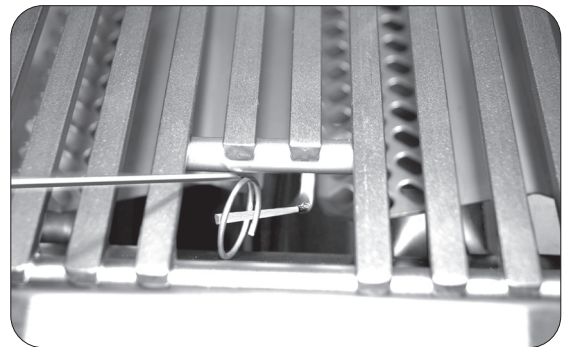

Fig. 31-2 - Manual lighting
**CAUTION:** Always wait five (5) minutes for gas to clear after any unsuccessful lighting attempt.
2. Insert either a burning long-barrel butane lighter or a burning long-stem match through the cooking grid opening to the top of the burner (Fig. 31-2). For backburners, hold the flame against the surface of the backburner.
4. If the burner does not light within five (5) seconds of turning the control knob, **immediately depress the knob and turn the valve to OFF**. **WAIT FIVE (5) MINUTES** before repeating steps 2 through 4 of the MANUAL LIGHTING instructions.